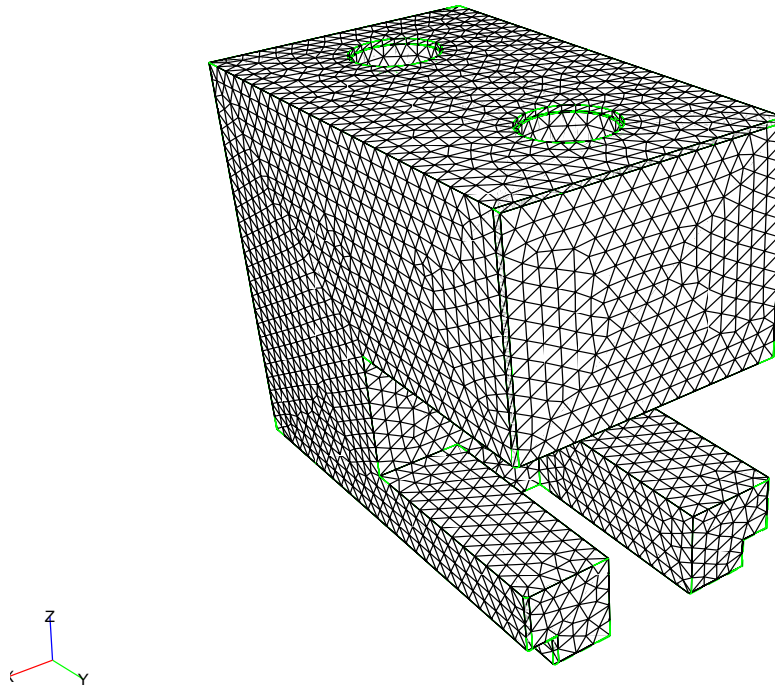

Figure 5-18: Tetrahedral mesh generated with scheme TetMesh
1. The Simulog/INRIA tetrahedron mesher is included in CUBIT. This is a robust and fast tetrahedron mesher developed in France at INRIA and distributed by Simulog. Figure 5-18 shows a part filled with tetrahedra by this algorithm. You can force this scheme for a volume by giving the command: